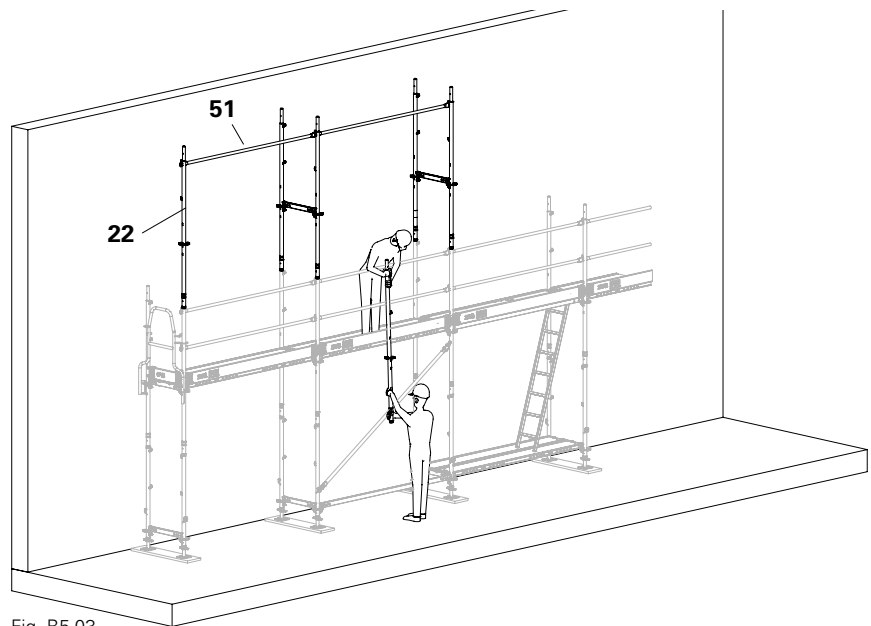

Fig. B5.03
4. Remove the Easy Standards EVM (22) together with the top Guardrail Post EPG (51) in the reverse order of the assembly sequence. Otherwise the guardrail posts cannot be unhooked.
- (Fig. B5.03)